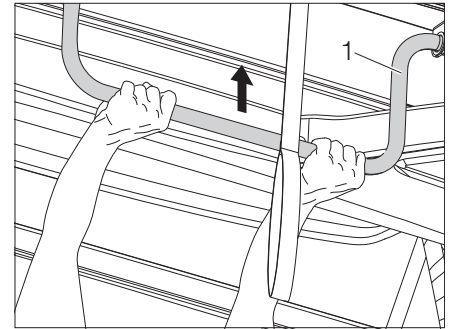

Fig. 45 Pushing up the pop-up roof
- Push up the pop-up roof by the bar (Fig. 45,1).